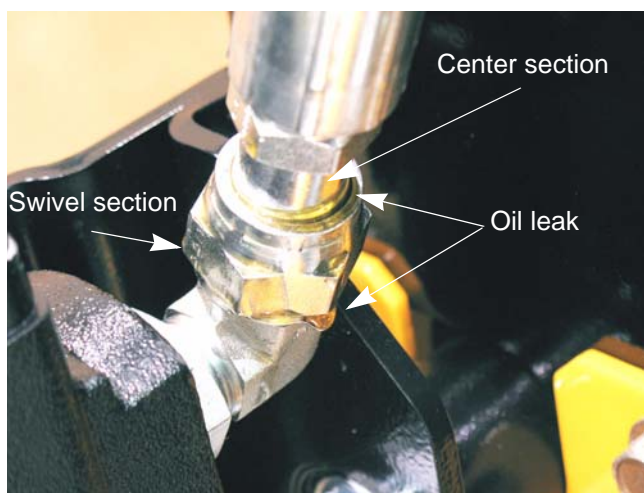

Figure 3.10
- B. Leaking fitting: See Figure 3.10.